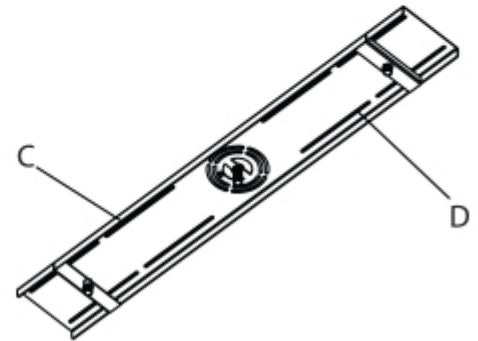

Figure 6
7. To complete attaching the mounting bracket to the ceiling, mark two additional locations on your ceiling for drywall anchors at points C and D somewhere within the parallel slots. Then if needed, remove one of the machine screws to rotate bracket for anchor installation. (Figure 6) *Note: The optimal placement of screws/anchors is at least 10" from the center of the mounting bracket.*